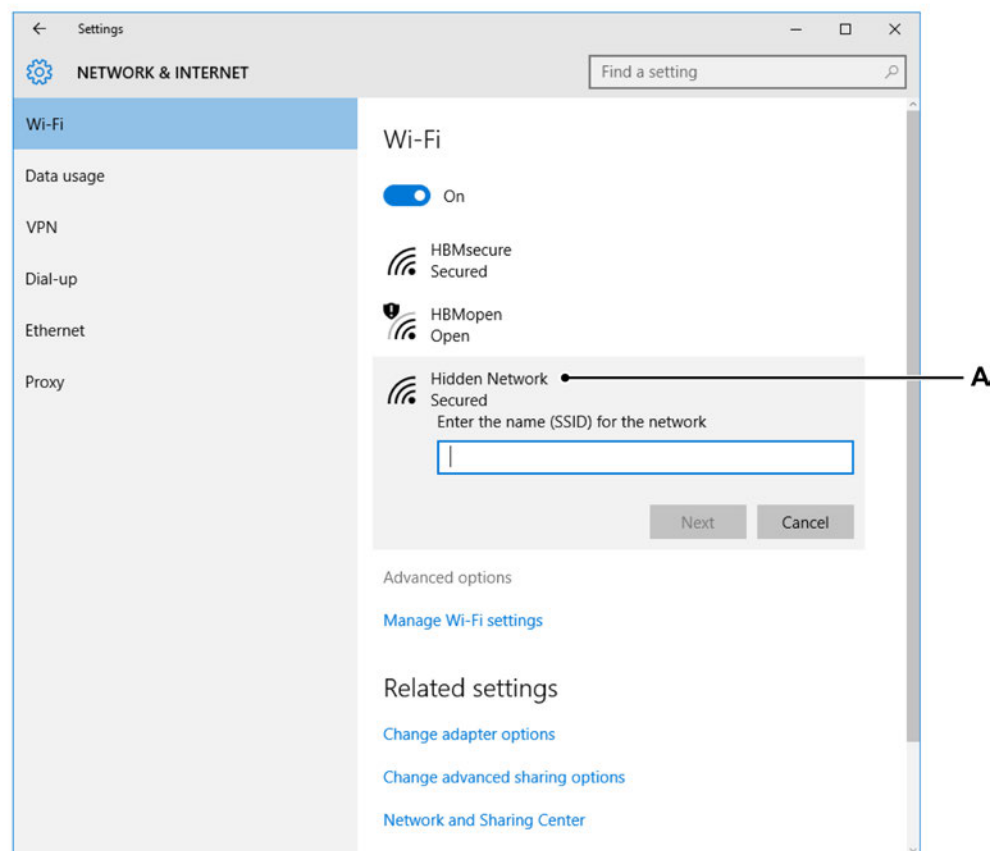

Figure 8.7: Network and internet window (advanced settings)
- 3A** Click the **Network** icon in the task bar and select **Network settings** to open the advanced settings (see Figure 8.7)